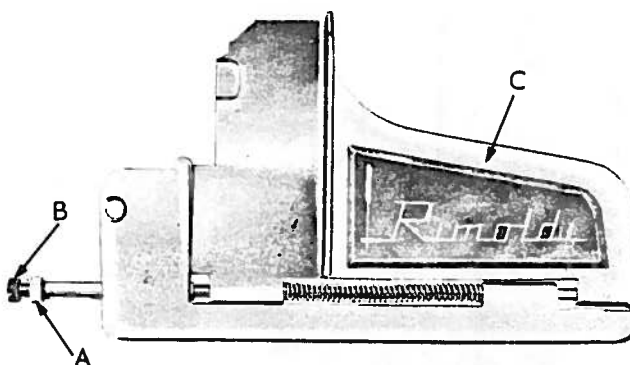

fig. 17
f) Adjusting the front cover plate (fig. 17).